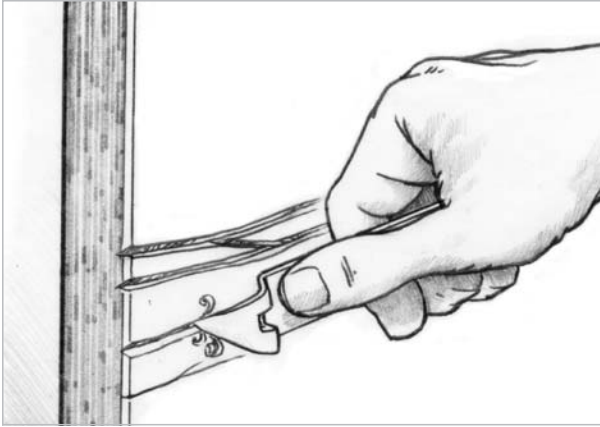

Figure 2-2 Open shallow and minor cracks with a “V”-shaped scraper, such as a sharpened can opener.
3. Open the cracks for repair. Use a sharpened “V” shaped tool to scrape down to the bottom of the cracks (*Figure 2-2*). A puncture-type can opener with the tip sharpened to about 90° works well. Beveling the sides of the crack provides more bonding area for the repair. It may be more